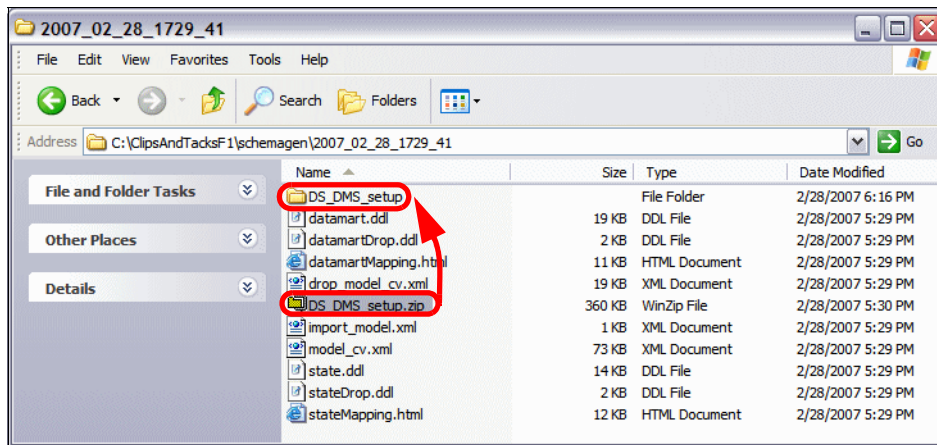

Figure 14-9 Generated schema
► Locate DS_DMS_setup.zip and unzip it to this folder (Figure 14-9).